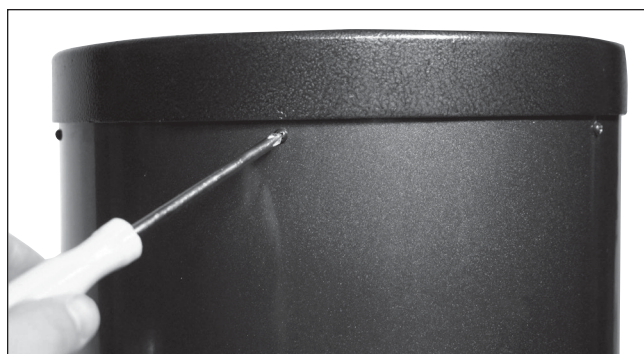

Figure 12. To remove the rear end ring, unthread the six screws that connect it to the tube.
1. To install the mirror cell into the optical tube, the rear end ring attached to the lower section of the optical tube must first be removed. This is done by unthreading and removing the six Phillips-head screws that connect the end ring to the tube (**Figure 12**), and then pulling the